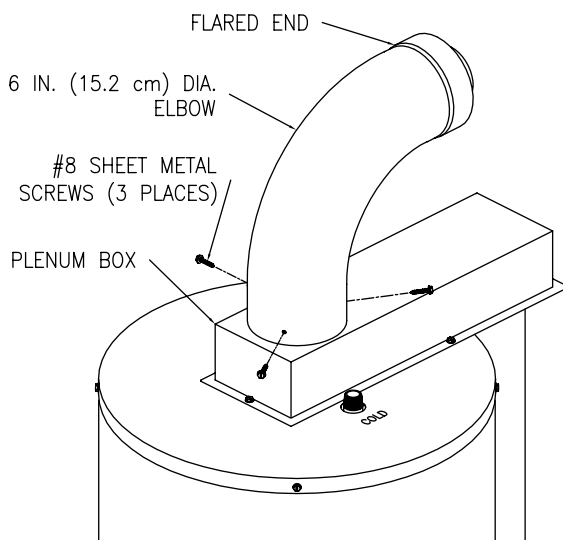

Figure 6
7. Extend the four (4) inch (10.2 cm) diameter telescopic tube to its maximum length and slide the backing plate over it. Place the large end of the four (4) inch (10.2 cm) diameter telescopic tube through the hole in the outside wall. Insert the smaller end of the four (4) inch (10.2 cm) diameter telescopic tube into the flared end of the four (4) inch (10.2 cm) diameter elbow, one (1) inch (2.5 cm) (or until seated). Drill three (3) 1/8 inch (3.0 mm) diameter holes, 120° apart, through the four (4) inch (10.2 cm) diameter elbow into the four (4) inch (10.2 cm) diameter telescopic tube. Fasten with three (3) #8 sheet metal screws (supplied). Adjust the overall length of the four (4) inch (10.2 cm) diameter telescopic tube so that 2-1/2 inches (6.4 cm) extends beyond the outside wall. Drill three (3) 1/8 inch (3.0 mm) diameter holes, 120° apart, through the four (4) inch (10.2) diameter telescopic tubes where the small and large sections overlap. Fasten with three (3) #8 sheet metal screws (supplied). Using the supplied special RTV silicone sealant, apply a sufficient amount to seal the joints (See Figure 6).